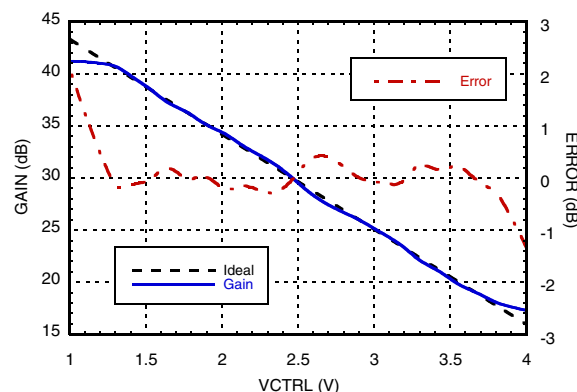
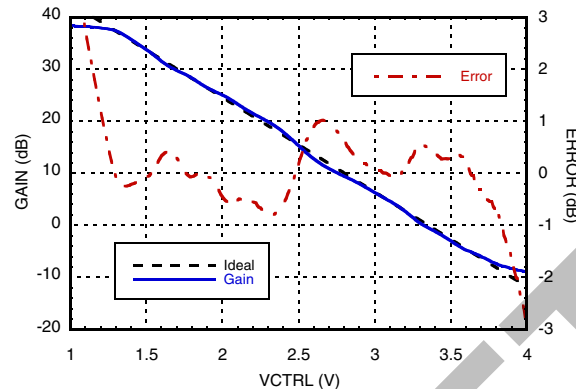

Figure 3a: Gain & Gain Conformance Error vs. VCTRL at 300 MHz, 1 attenuator + 2 amplifiers configuration.
Figure 3b: Gain & Gain Conformance Error vs. VCTRL at 300 MHz, 2 attenuators + 2 amplifiers configuration.
The gain control performance of the HMC992LP5E at 300 MHz is shown in Figures 3a and 3b. The HMC992LP5E provides 24 dB of gain control range with a maximum gain of 41.2 dB when it is configured in 1 attenuator + 2 amplifiers mode, and similarly a 48 dB of gain control range with a maximum gain of 39 dB of gain when it is configured in 2 attenuators + 2 amplifiers mode. The HMC992LP5E's VGA has a very flat linear-in-dB gain control characteristic with a slope of -18.2 dB/V for the 2 attenuator configuration and -9.1 dB/V for the 1 attenuator configuration. The log-linearity error of the HMC992LP5 VGA is typically less than $\pm 1 \text{ dB}$ over the entire gain control range as shown in Figure 3a and Figure 3b. The relation between the gain of HMC992LP5E's VGA and VCTRL pin voltage can be approximated as given in Equation (1).